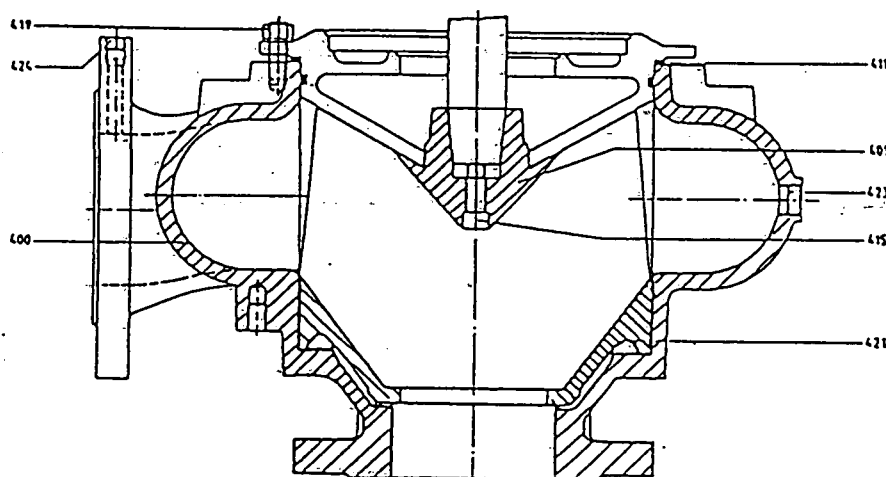

FIGURE 15: C080/D100
These pumps have a non-adjustable liner-(421) held in a fixed position inside a one-piece volute casing. This liner can be pressed out of the casing. See Figure 15.